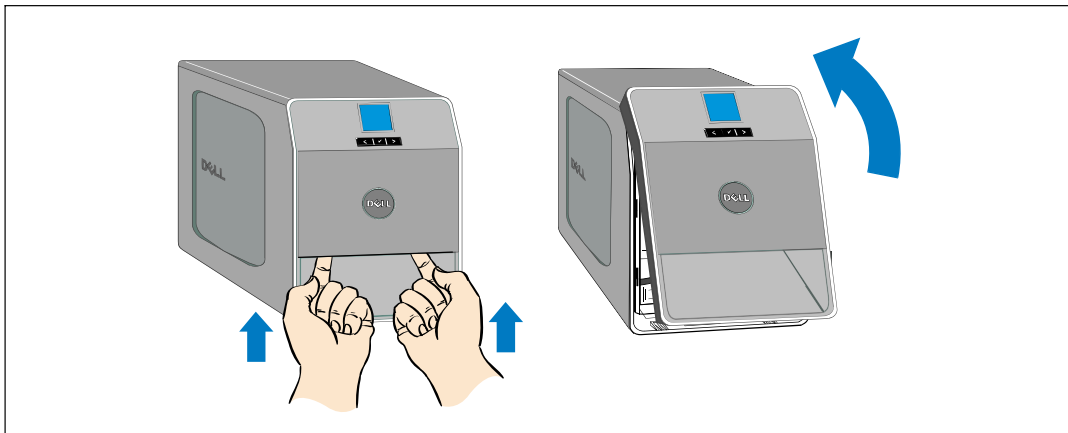

Figure 24. Removing the UPS Front Cover
- 2 Remove the UPS front cover (see Figure 24):